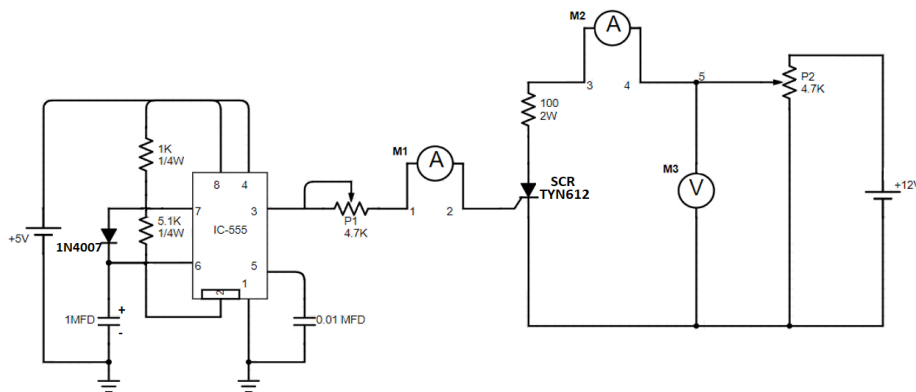

Figure 17
1. Connect the circuit, as shown in Figure 17, using patch cords.